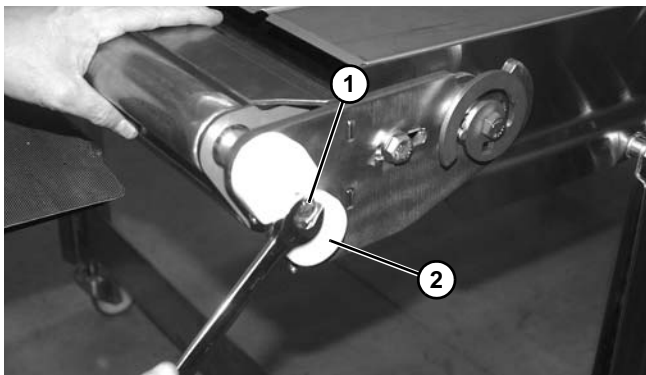

Figure 157
2. Remove screw (**Figure 157, item 1**) securing bearing cover (**Figure 157, item 2**).